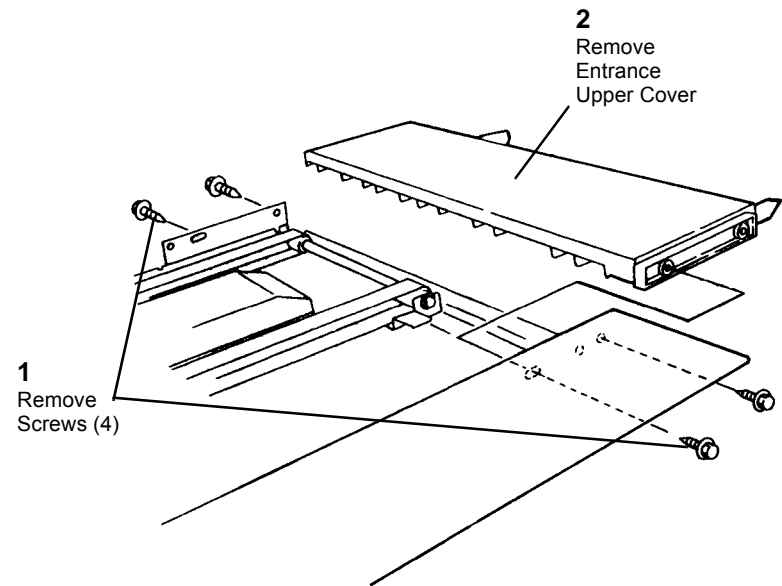

Figure 3 Removing the Entrance Upper Cover
5. Remove the Entrance Upper Cover (Figure 3)